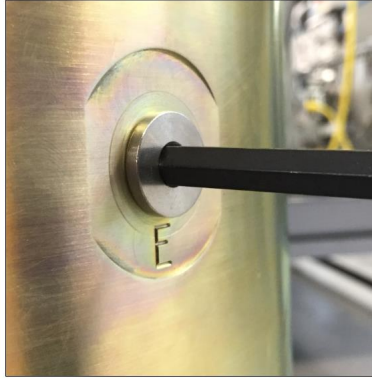

Figure 2-5. Roller Screw Port Plug Removal
2. Prior to starting this procedure, the actuator needs to be in the fully closed (0%) position so that the Roller Screw Port Plug will align with the Lubrication Port on the side of the actuator (Figure 2-5).